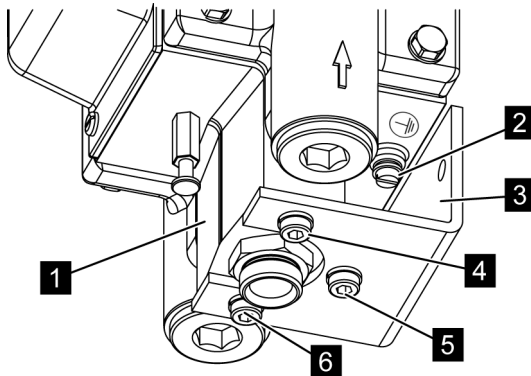

Fig. 4: Installation
2. ➤ Lightly grease the screws (Fig. 4/4 to 6)
3. ➤ Fit the diaphragm pump (Fig. 4/1) to the bracket (Fig. 4/2) with the screws (Fig. 4/4 to 6).
4. ➤ Screw the earthing to the earthing screws (Fig. 4/2).